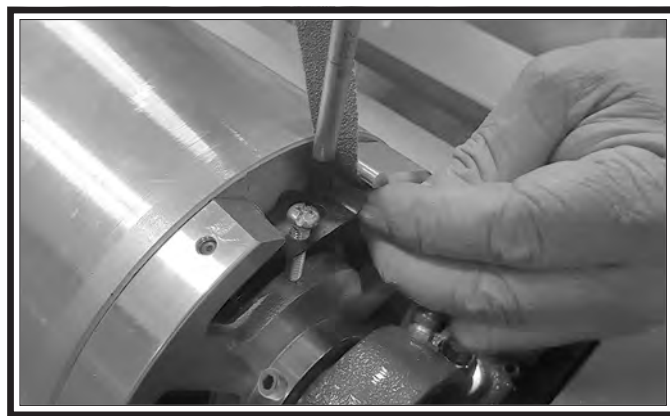

Figure 23. Example of inserting leading end of sandpaper under spring clip.
10. On left side of drum, use Phillips screwdriver to pry spring clip slightly open and fold about 1" of leading end of sandpaper over tensioning wheel and under spring clip, as shown in **Figure 23**.